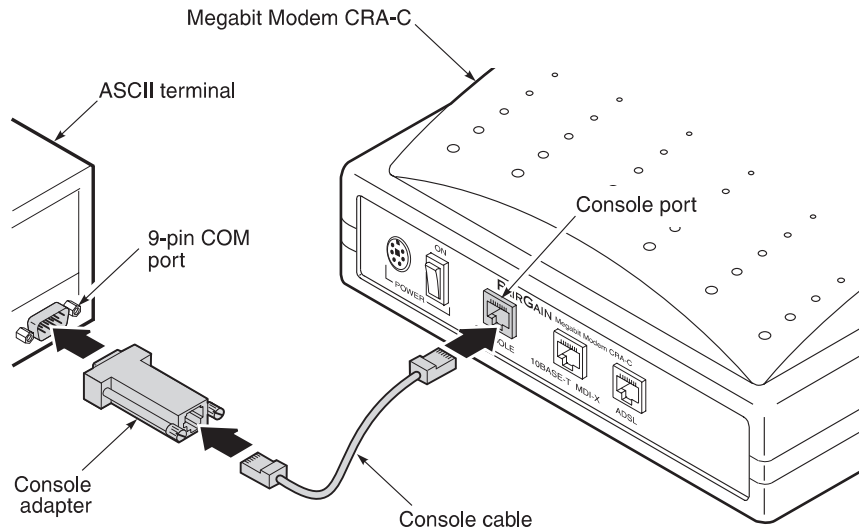

Figure 7. Connecting to an ASCII Terminal
- 1** Plug the console adapter into the standard 9-pin COM port on the ASCII terminal and tighten the captive screws until they are snug (Figure 7). (Skip this step if the ASCII terminal has an RJ-48 jack.)